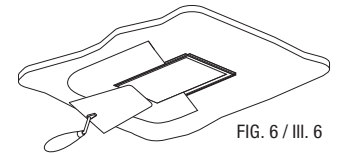

FIG. 6 / III. 6
3. Plaster around the housing opening, be careful not to fill past raised border (Fig. 6).